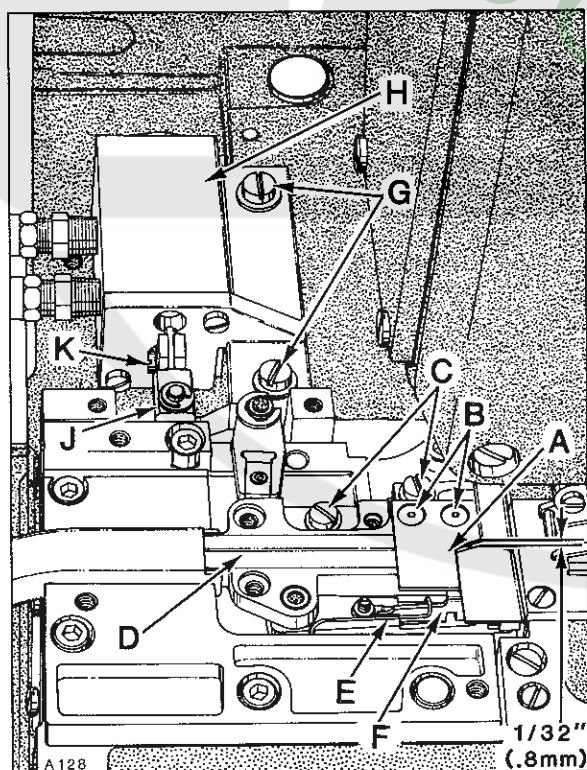

Fig. 25
Upper knife (A, Fig. 25) can be replaced by removing two screws (B). To replace lower knife, the upper knife must be removed and rear suction tube cover. Loosen two screws (C) and slide housing (D) towards the rear. Remove screw (A, Fig. 26) and lift up thread inlet (B). Unhook knife spring (E, Fig. 25) and remove lower knife (F). Reassemble knives in reverse manner. Reassemble thread inlet (B, Fig. 26) and slide housing (D, Fig. 25) forward against rear of throat plate; tighten two screws (C).
IMPORTANT: Be sure that lower knife does NOT strike against knife housing or feed chamber cover. Adjustment should be accomplished by loosening two screws (G, Fig. 25) and reposition air motor (H) left or right slightly, but under extreme circumstances it may become necessary to shorten the stroke of lower knife travel by repositioning coupling (J).
Carefully press against lower knife (F, Fig. 25) until air motor stalls. With treadle still depressed, check the knife cross over. Cross over of lower knife to upper knife is positioned correctly when the lower knife is $1/32$ inch (.8mm) from the front of upper knife as shown in Figure 25. If adjustment is required, loosen screw (K) and reposition coupling (J) as required to obtain specified dimension.
Shear angle should be .003 inch (.076mm), measured at rear cutting edge of lower knife (F, Fig. 25) and cutting edge of upper knife (A). Adjustment can be made by loosening nut (A, Fig. 27) and turning screw (B) clockwise to increase the angle or counterclockwise to decrease. Lock nut (A) after shear angle is set.